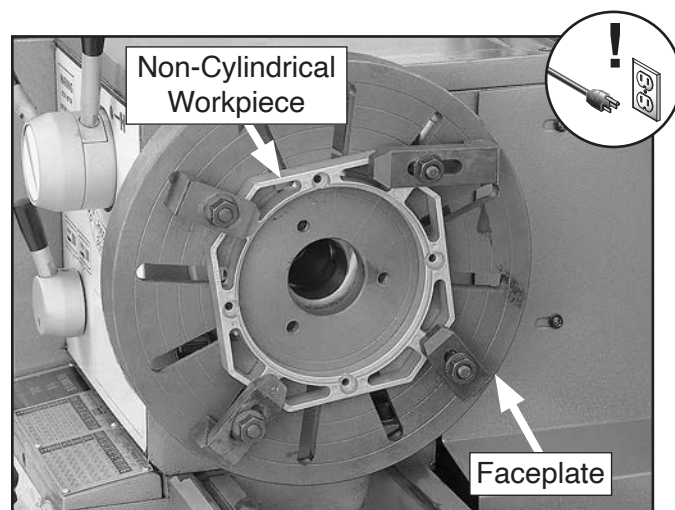

Figure 45. Example of workpiece clamped to faceplate.
3. Position workpiece onto faceplate and clamp it in place with minimum of (3) independent clamping devices (see **Figure 45**).